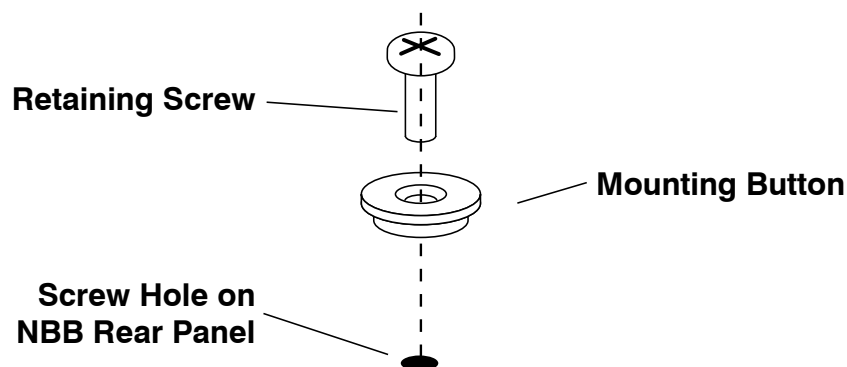

Figure C.2: Attaching Mounting Buttons to the NBB Unit
2. Install two Mounting Button in the holes selected in Step 1 above. Refer to Figure C.2 below for further details regarding assembling the Mounting Buttons and attaching them to the NBB unit.